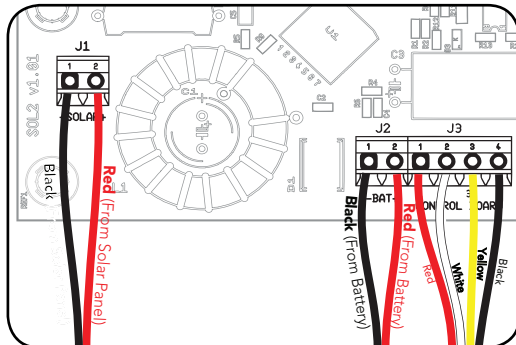

Fig. 42
- Connect the red wire to the Charger Board's "SOLAR+" connector, and the black wire to the "-SOLAR" connector (Fig. 42).
- Connect the red wire to the Charger Board's "BAT+" connector, and the black wire to the "-BAT" connector (Fig. 42).